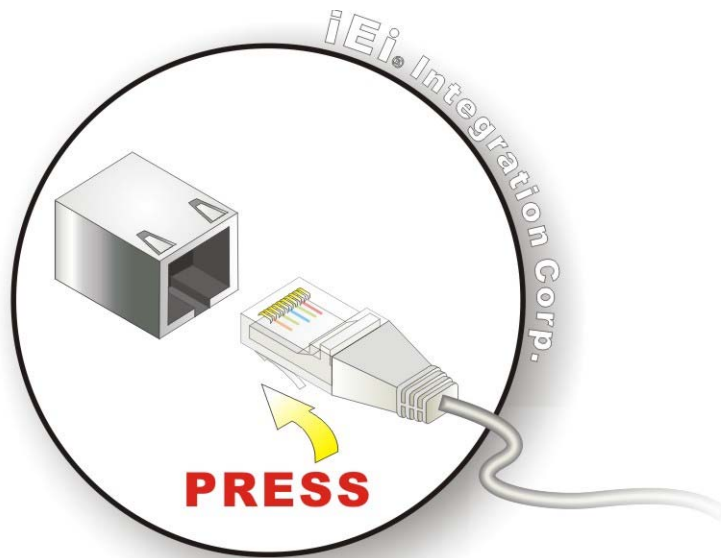

Figure 4-20: LAN Connection
Step 2: Align the connectors. Align the RJ-45 connector on the LAN cable with one of the RJ-45 connectors on the eKINO-BT. See Figure 4-20.